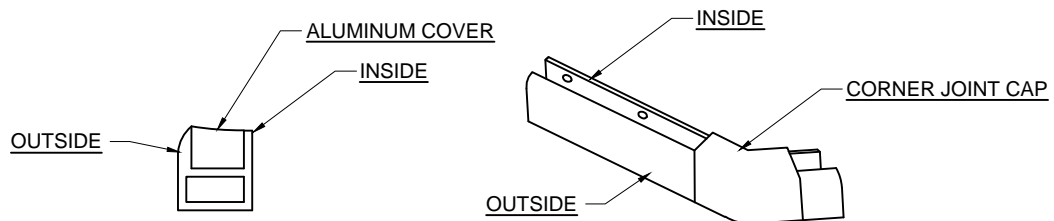

FIG.3
5. Clip the aluminum cover to the front piece of the bottom rail making sure the lower side faces the inside of the shower. [SEE FIG.3]
6. Silicone the underneath portion of the corner joint cap and place it on the corner joint. [SEE FIG.3]